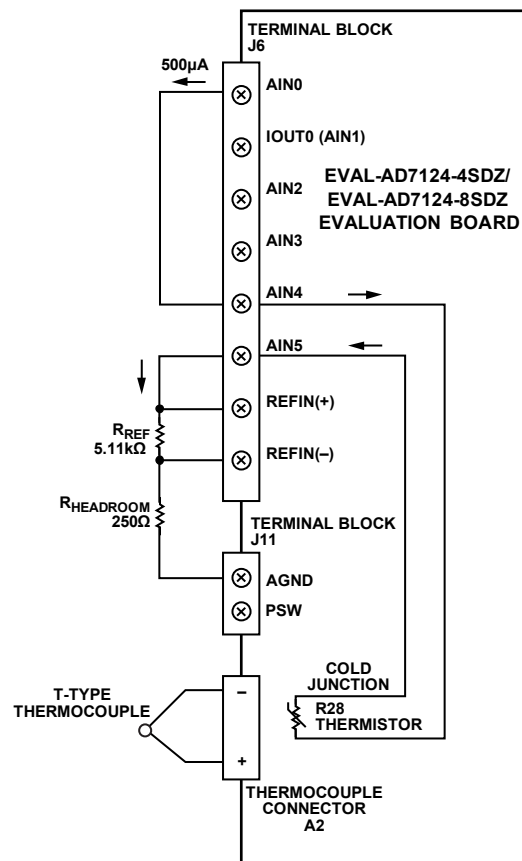

Figure 15. Evaluation Board Connector for Thermocouple Measurement
- Connect the thermocouple, precision reference resistor, and resistor for headroom as shown in Figure 15.